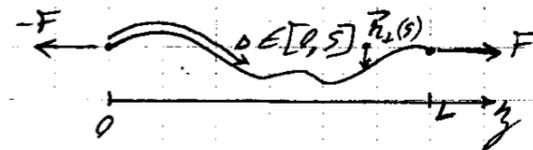

Figure 1: Parametrization of the filament. Here fluctuations take place in both the  $x$  and  $y$  directions.
Here we consider the response of a somewhat rigid polymer, *e.g.*, a DNA filament to a longitudinal pulling or pushing force [see Fig. 1, as well as the classic reference Marko & Siggia, *Macromolecules* **28**, 8759 (1995)]. This response is dominated by a spring-like elasticity that originates in the straightening out of its transverse fluctuations, as discussed in the following. We thus look for the force-extension relation of that nonlinear spring. While physically related, the three sections can be tackled independently.
where  $\ell_p$  is a constant known as the persistence length and the total length  $S$  of the filament is also constant. The action of the outside tensile force  $F$  pictured in Fig. 1 results in an additional energy
We now study the foundation of the energies introduced in Sec. 1. We consider an inextensible filament with constant total arclength  $S$ , but whose end-to-end length  $L$  fluctuates (Fig. 1).
3.4 Using this result and assuming the filament is being pulled at both ends by a force  $\mathbf{F} = \pm F\hat{\mathbf{z}}$  as in Fig. 1, demonstrate that the energy  $E_t$  associated with the tension of the filament is given by Eq. (2).